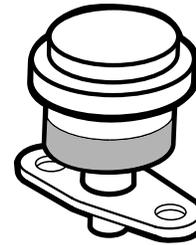

Figure 50
1. Check the filter blockage indicator. If the indicator is red, the air filter needs to be replaced (Figure 50).